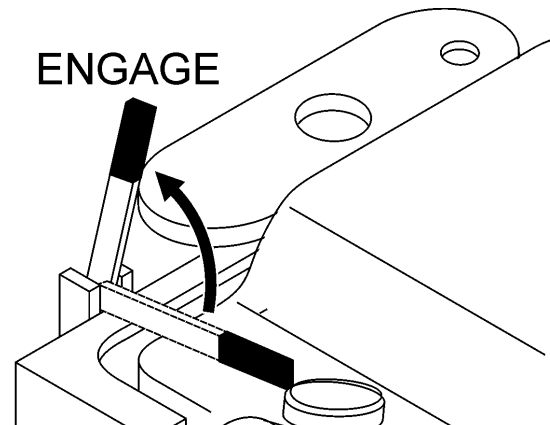

Figure 51. Transmission Lever (Engaged Position)
- Move the transmission engage/disengage lever to the **ENGAGE** position to observe the proper spline-to-rear wheel contact (Figure 51).